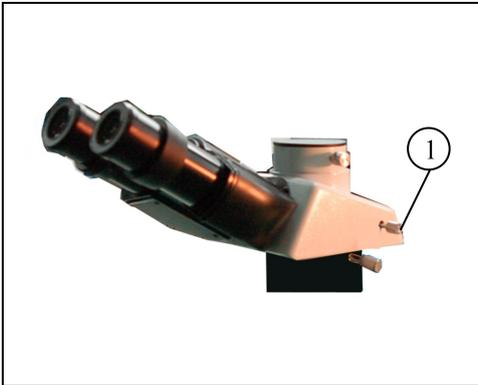

Fig 1
4.1.1 Selecting the light path (Fig.1)